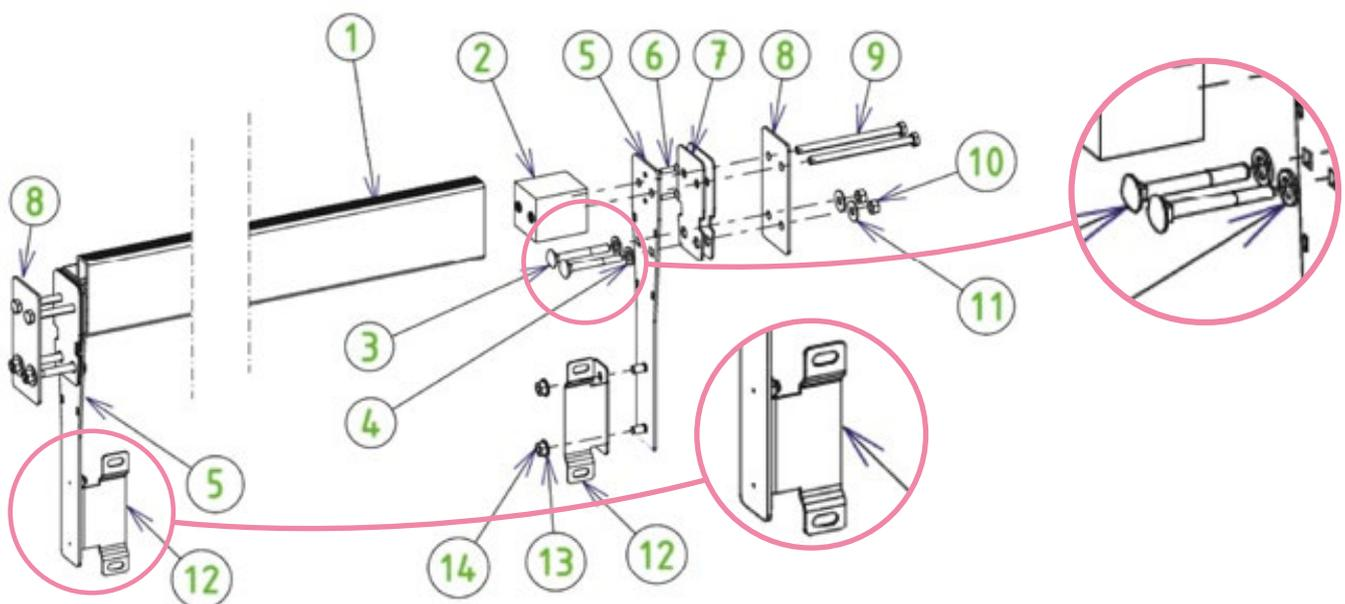

Figure 42 – Assembling and mounting the beam
The beam assembly steps are illustrated in Figure 42. The screws required for assembly are enclosed in bag Y. In this figure, the wooden wall is located between parts 7 and 8, and the liner is sandwiched between the two rubber gaskets (7).
- Glue the two remaining rubber gaskets (7) to the beam mounting plates (5) on the side opposite the threaded rods (the other two gaskets were applied to the wood, before the liner was fitted) . Make sure that the holes in the gasket (7) are aligned with the holes in the mounting brackets (5).
- Fasten the mounting plate (5) to the counter plates (8): The mounting plates (5) are located inside the pool with their gaskets in contact with the liner, while the counter-plates (8) are located outside the pool. Use the bottom holes drilled in paragraph 9.2.
- For the assembly, working from inside the pool, insert four mushroom head square neck bolts, 8 x 70 SS A4 (3) with 8 mm rubber washers (4), then, working from outside the pool, mount washers (11) and 8 mm A4 SS nuts (10).
- The holes drilled in the top of the wall in paragraph 9.2 should line up with the remaining 8 mm holes in the mounting plate (5) and counter plates (8).
- Fasten the two pit wall mounting brackets (12) to the beam mounting plates (5) using four nuts (14) and four 8 mm diameter A4 SS washers (13). The protruding parts of the pit wall mounting brackets (12) that feature a slot should be located on the side opposite the skimmer and the automatic cover axle (see the zoom focused on the pit wall mounting brackets (12) in Figure 42).
- Insert the polyamide blocks (2) on either side of the beam (1) using a mallet, making sure that the brass inserts on the polyamide blocks are oriented toward the inside of the beam.
- Install the beam on the pool, facing the beam mounting plates (5), making sure that the holes in the polyamide blocks are aligned with the holes in the plates (5) and counter plates (8). Working from outside the pool, fasten the beam to the outside of the pool using four hex head 8 × 120, A2 SS screws (9).
Lastly, fasten the pit wall to the brackets (part 12 in *Figure 42*) using four 8 × 16 stove screws (7), four washers and four 8 mm diameter A4 SS nuts.